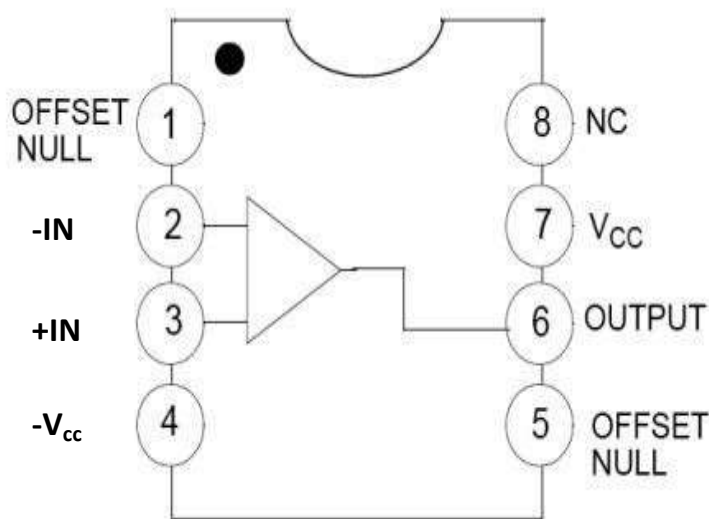

Figure 2.2 '741 Operational Amplifier integrated-circuit DIP package pin-outs
The numbers on the diagram in Figure 1.1 refer to the pin numbers on the '741 integrated circuit (IC) Dual In-Line Package (DIP) shown in Figure 2.2. The pin numbers and the supply voltages are usually omitted in circuit diagrams as long as there is no ambiguity. Pin 8 is not used. Pins 1 and 5 do serve a useful purpose for input offset voltage nulling, but they will not be used in this lab.